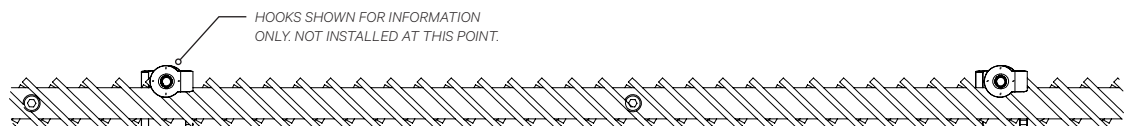

Fig 3.2
3. Note ring count per cap screw (Fig 3.2). Ensure hooks don't interfere with the ring count.
2. Refer to Fig. 3.2 and 3.3 and ensure the rings are evenly spaced across the hanging tube.